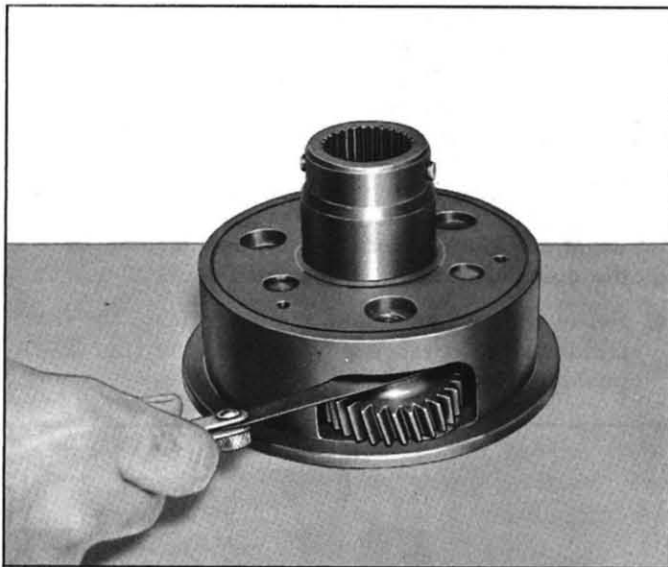

Fig. 6E-1—Checking Planet Gear End Clearance
4. Check end clearance of planet gears. This clearance should be .005"-.035" (fig. 6E-1).